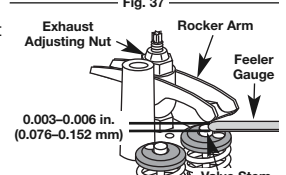

Fig. 38
7. Slide the feeler gauge between the rocker arm and the valve return spring. Measure the clearance between the valve stem and rocker arm (Fig. 38). Measure both the intake and exhaust valves.
- a. Turn the adjusting nut using a 5/16 inch (8 mm) wrench or nut driver (Fig. 38).